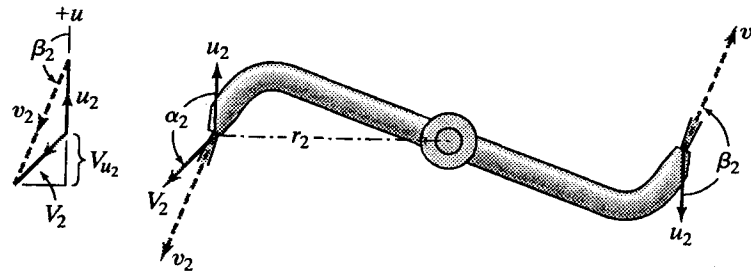

Figure 6.14
6.14.1 The flow from a lawn sprinkler such as Fig. 6.14 is 140 L/min,  $\beta_2 = 180^\circ$ , and the total area of the jets is 120 mm2. The jets are located 200-mm from the center of rotation. Determine the speed of rotation if there is no friction.